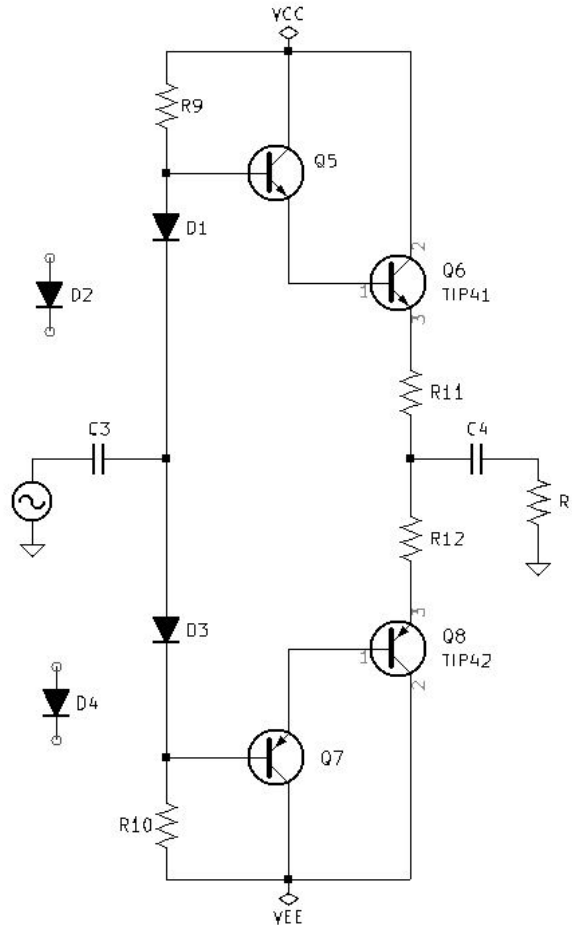

Figure 5.2: Push Pull Amplifier Cross-Over Distortion Test Circuit.
- (b) Build your calculated Push-Pull Amplifier with D2 and D4 removed from the circuit. Also, replace RL with a $10K\Omega$ resistor. See Figure 5.2 *Push Pull Amplifier Cross-Over Distortion Test Circuit*. on page 42.